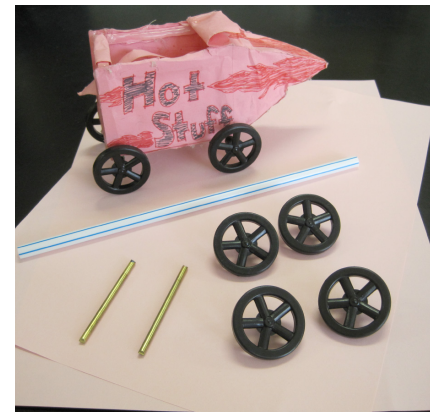

Figure 3. Paper car building supplies provided to students and a sample of a completed car.
7. Distribute the building materials you are providing (2 sheets of paper, 4 wheels, 2 axles, and 1 plastic straw) (Figure 3) and remind students that cars wider than 6.5 cm will not fit on the Crash Track. Inform them you have pre-cut the axles to 5 cm each to ensure that the combined width of two wheels and an axle does not exceed 6.5 cm. Also remind them that the straw can ONLY be cut into pieces and glued to the bottom of their paper vehicle to serve as a “housing” for sliding their axles through to attach the wheels/axles to the car.
8. Distribute the building materials you are providing (2 sheets of paper, 4 wheels, 2 axles, and 1 plastic straw) (Figure 3) and remind students that cars wider than 6.5 cm will not fit on the Crash Track. Inform them you have pre-cut the axles to 5 cm each to ensure that the combined width of two wheels and an axle does not exceed 6.5 cm. Also remind them that the straw can ONLY be cut into pieces and glued to the bottom of their paper vehicle to serve as a “housing” for sliding their axles through to attach the wheels/axles to the car.